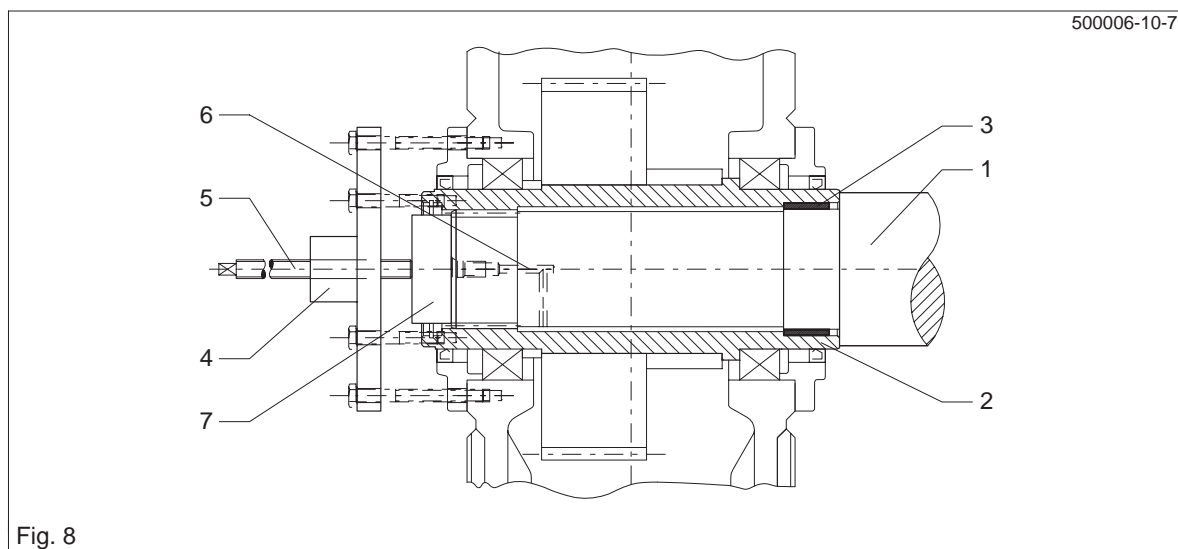

Fig. 8
- When the rust-releasing agent has taken effect, pull the gear unit off with the device as shown in figs. 8 or 9.
If the counterforce is provided not only by the hollow shaft, but also by the housing, as shown in fig. 8, the forces used must not exceed the values given in the following table.